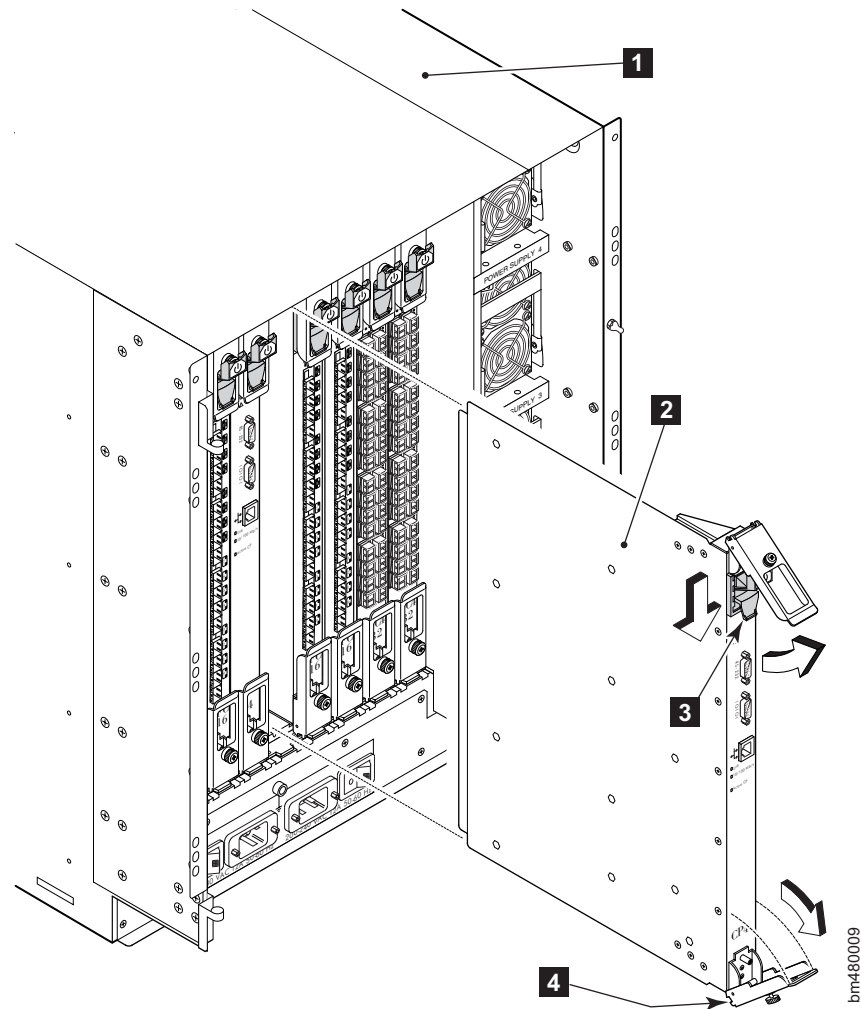

Figure 33. CP blade removal and replacement
- Turn the CP blade off and notify the director of a hot-swap request by sliding the slider switch in the top ejector down to the off position ( **3** in Figure 33 on page 67).
Perform the following to remove a CP blade. See Figure 33.
6. Slide the on/off switch in the top handle down. See **3** in Figure 33 on page 67.